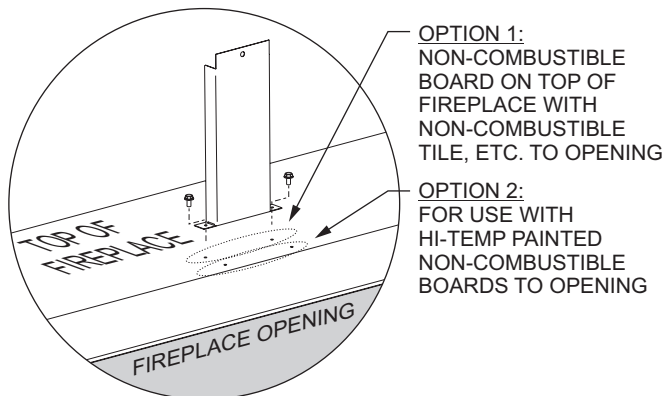

Figure 10
4. Secure the brackets to the fireplace top with four screws as shown in Figure 10. The screws are located in the hardware packet inside the envelope pack. There are holes located in the top of the fireplace for each mounting bracket. The hole closer to the edge of the fireplace is for mounting noncombustible board around the opening. The other hole is for mounting the non-combustible board to the fireplace face (top, side and bottom). See Figures 10 to 14.
5. On the top and bottom of each side are side framing standoffs. Use pliers to bend the side framing standoff 90 degrees away from the cabinet. See Figure 10.